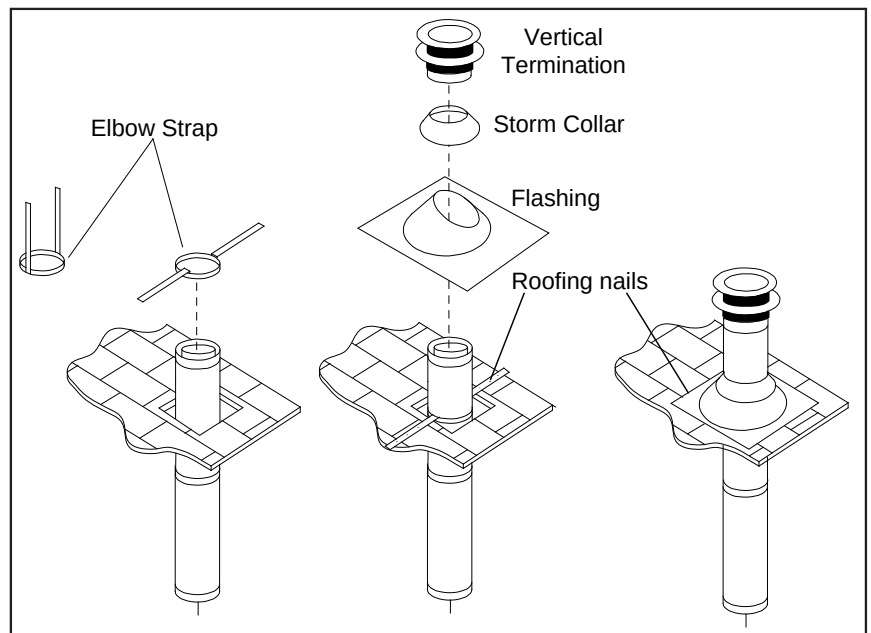

Figure 60: Vertical Vent Termination
- STEP 6.** Once the pipe sections have been joined, and run up through the hole in the roof, slip an elbow strap over the exposed sections, bend the support straps outwards, and push the elbow strap down to the roof level, as shown in Figure 60. Tighten the clamp around the pipe section. Use a level to make sure the pipe is truly vertical. With roofing nails, secure the support straps to the roof. Seal the nails holes heads with non-hardening mastic. Trim the excess length of the support straps that extend out beyond the edge of the flashing.
- STEP 9.** Slip the storm collar over the pipe, and push it down to the top of the roof flashing as shown in Figure 60. Use the non-hardening sealant around the joint between the pipe and the storm collar.
All electrical connections for the S50 are done internally and come pre-wired directly from the factory. Connect the supplied IEC power cord into the receptacle at the back of the unit (see Figure 60) and into a wall outlet.